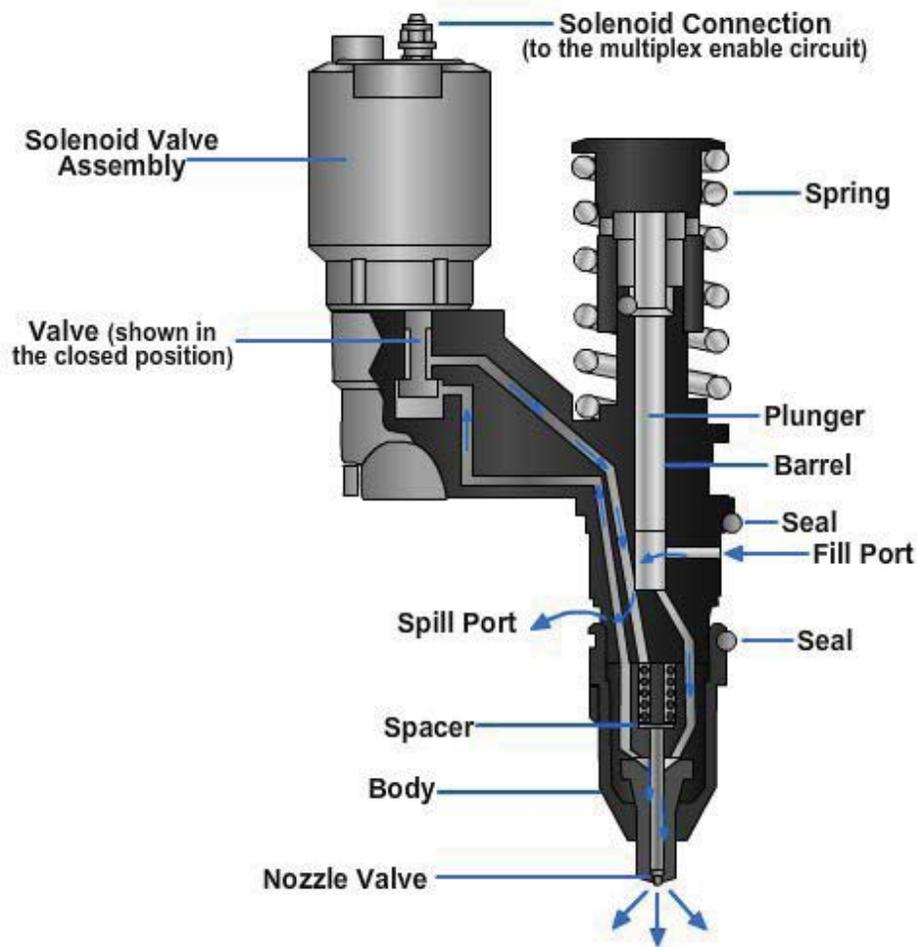

Figure 5-75 - Sectional view of a Delphi EUI and internal components.
The Delphi EUIs used by Caterpillar have changed little since their introduction in the late 1980s. *Figure 5-75* shows a sectional view of the Caterpillar Delphi EUI with the subcomponents labeled.
4. Poppet control valve. A valve integral with the solenoid armature. In *Figure 5-75* the control valve is shown closed (solenoid energized): this prevents fuel from exiting through the spill port, trapping it in the EUI circuitry, enabling effective stroke.
5. Plunger. The reciprocating member of the pump element, the plunger, is lugged to the tappet, so it reciprocates with it. In *Figure 5-75*, the plunger is shown in its upward position.